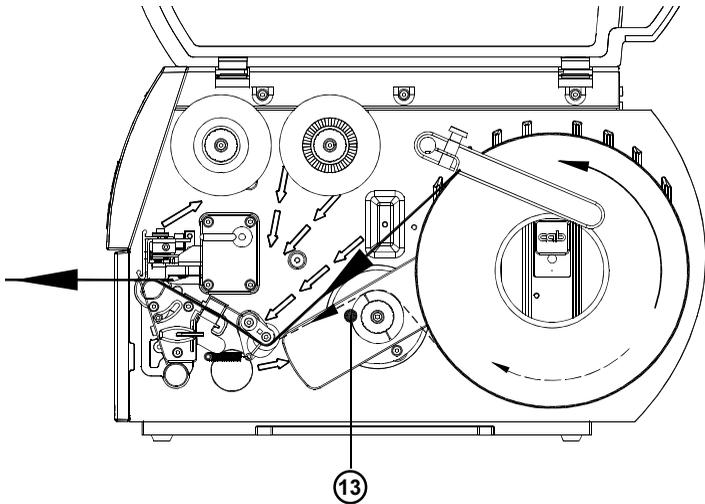

Fig. 7d Feed path in Tear-off Mode
3. Place the media roll (8) onto the media hub (9) and unwind a strip of media (4) from the roll. When operating in the rewind or peel-off mode make sure that the strip is long enough to reach the internal rewinder by guiding the strip through the whole print mechanism and underneath of it. Make sure that the labels between the media hub and the print mechanism are facing up. Slide the roll onto the media hub (9) until it stops.
4. Swing the media retainer (11) downwards until it touches the media hub (9). Push the media retainer against the supply role until it rests against the label media. Tighten the knurled screw (10).
5. Raise the printhead assembly (2) by rotating the lever (7) clockwise until it stops.
6. Slide the media guide ring (6) outward, allowing enough clearance for the label stock's width when loaded.
7. Slide the media strip underneath the swing (5 /A3-2 and A3: axle) and through the adjustable photocell assembly (3) until it comes out of the front of the printer. If you are using labels that are wound-in, please make sure that you slide the media strip over the internal rewind hub (13). In figure 7d the feed path for labels wound-out is represented by a solid line, and the feed path for wound-in labels is represented by a broken line.